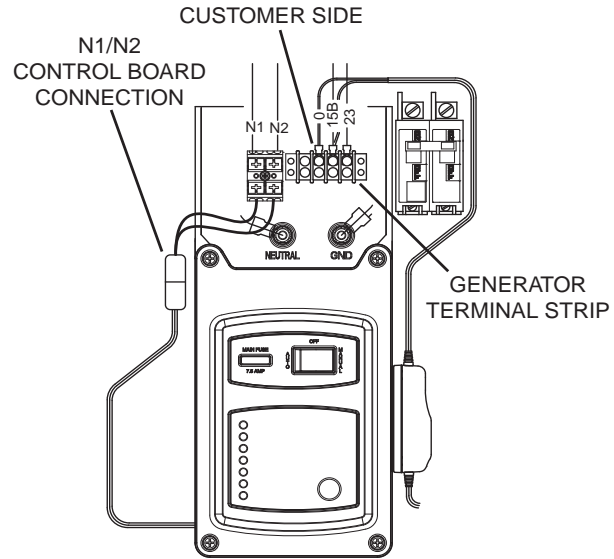

Figure 6. Transfer Relay Test Points
- 6. Locate the terminal strip in the generator control panel. Disconnect Wire 23 coming in from the transfer switch (customer connection, side-see Figure 6).
- 8. Locate the terminal strip in the generator control panel. Disconnect Wire 23 coming in from the transfer switch (customer connection, side - see Figure 6).
- 11. Connect one meter test lead to Wire 23 connected at generator terminal strip. See Figure 6. Connect the other meter test lead to control panel ground.
4. Remove the generator control panel cover. Disconnect the N1/N2 connector that supplies the printed circuit board located in the control panel (see Figure 6).